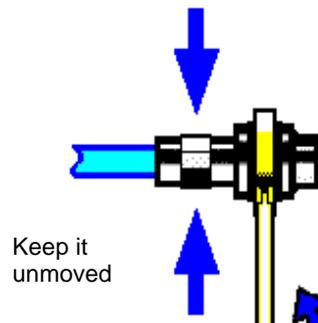

Fig. 3.6 Diagram - Use of Wrench
**Step 3.** As shown in Fig. 3.6, use a torque wrench to tighten the connectors and finish the connection; the torque wrench shall not exceed the starting break point and an auxiliary wrench can be used to prevent the connector rotating.